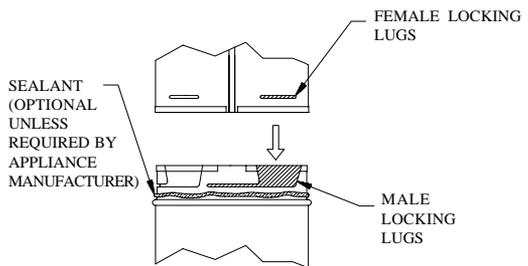

Fig 5
(1) Twist-lock procedure: Four indentations, located on the female ends of pipes and fittings, are designed to slide straight onto the male ends of adjacent pipes and fittings, by orienting the four pipe indentations so they match and slide into the four entry slots on the male ends. (Fig 5). Push the pipe sections completely together, then twist-lock one section clockwise approximately one-quarter turn, until the two sections are fully locked.
(2) Horizontal runs of vent must be supported every three feet. Wall Straps are
(3) Sealant is optional, unless specified by the appliance manufacturer. Should you elect to use sealant, it is only necessary on the outer tube of the GS Pipe. Run a 1/8-inch wide bead of sealant around the male end of the outer sleeve, as shown in Figure 5, and twist-lock the pipes or fittings together.